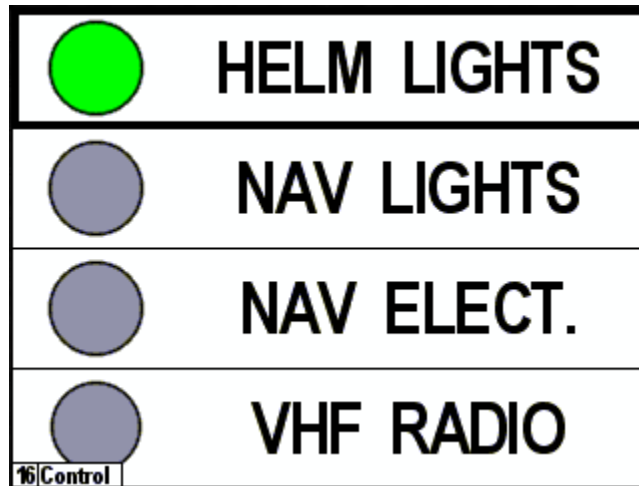

Figure 249 – Favorite Screen Showing Highlighted Switch/Breaker
1. Press the “Enter” key for approximately one second. This will place the display into “Control mode”, and one of the switches/breakers on the screen will be highlighted with a thick border, as shown in Figure 249 below.